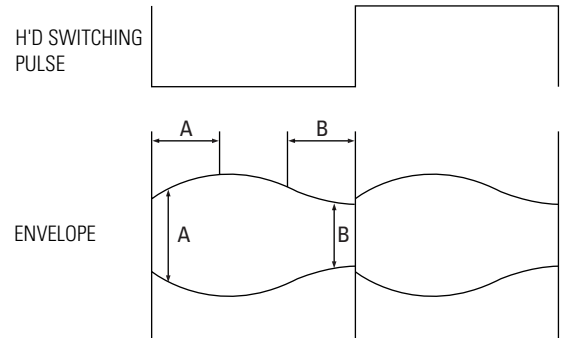

Fig. 4-10 Adjustment Points
- 4) If the section A in Fig. 4-10 does not meet the specification, adjust the guide roller S up or down.
- 5) If the section B in Fig. 4-10 does not meet the specification, adjust the guide roller T up or down.